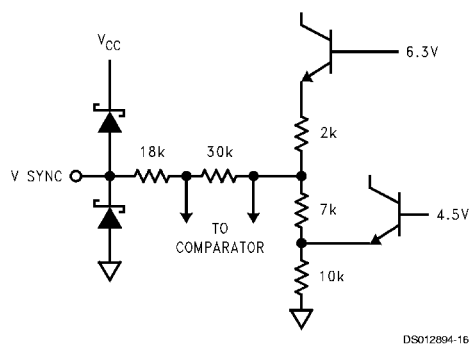

FIGURE 10.
**Pin 7. V SYNC:** This pin accepts AC-coupled V sync of either polarity. See *Figure 10* for the input schematic. The input sensitivity of this pin is about 1 VPP. For best noise immunity, a resistor of 10 k $\Omega$  in parallel with a filter capacitor of 0.01  $\mu$ F should be connected from the input side of the coupling capacitor to ground. The values of these components may be